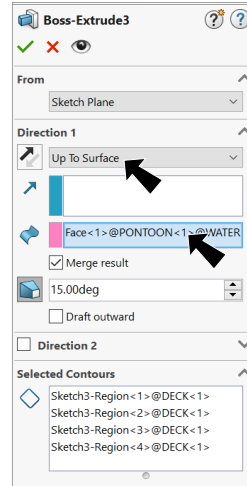

Fig. 52
Step 3. In the Boss-Extrude3 Property Manager set: under **Direction 1**, **Fig. 52**